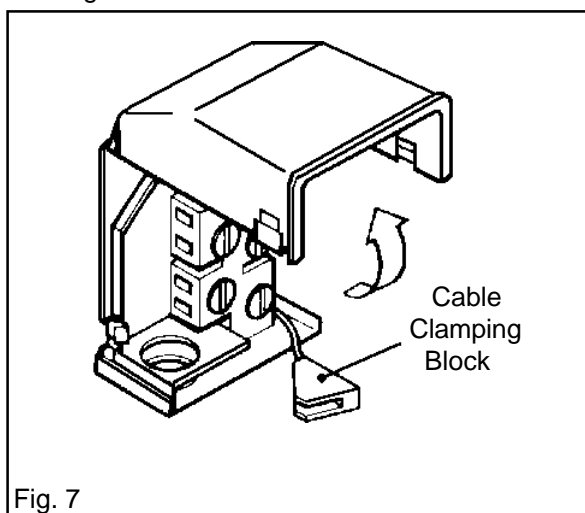

Fig. 7
- Lift cover and remove screw from cable clamp. See Fig. 7.